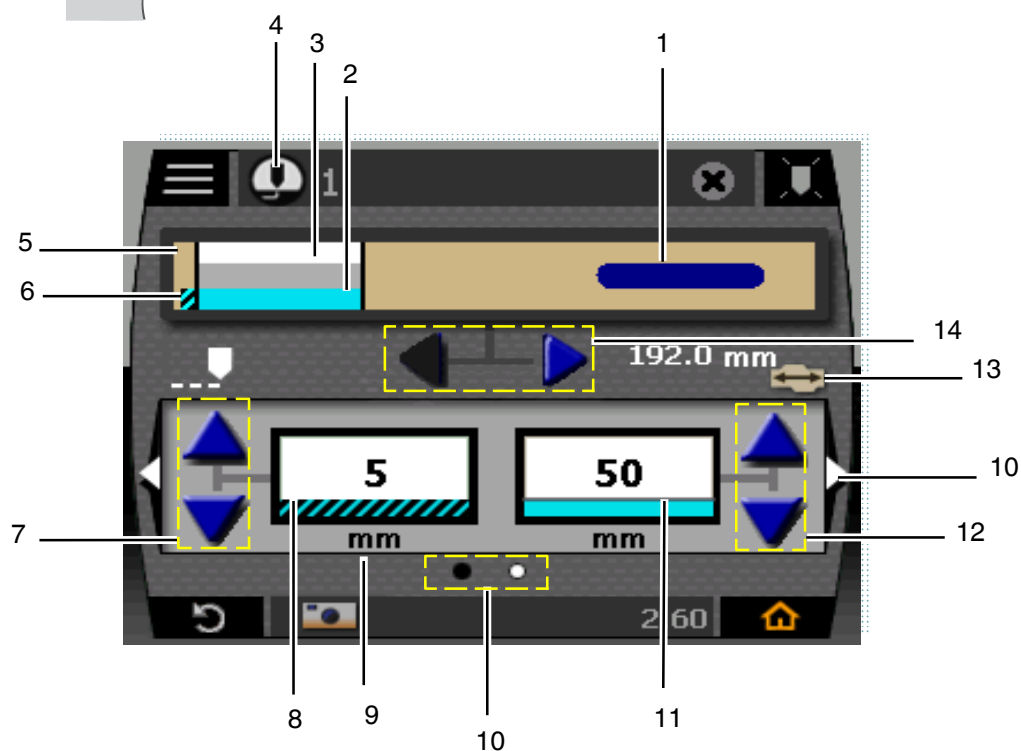

Figure 4-9 Components for setting normal patterns
- Pattern display (item 5 in Figure 4-9) updates automatically as pattern are modified.
- Select beads by tapping the beads or using the bead selector arrows (item 14 in Figure 4-9).
- Adjust delay or length values using the incremental tools (items 7 and 12 in Figure 4-9), or tapping the bead delay and bead length numeric entry keypads (items 8 and 11 in Figure 4-9).
- Select a different applicator channel by tapping the applicator icon (item 4 in Figure 4-9).
- View product length (item 13 in Figure 4-9) as measured by the assigned trigger input in real-time.